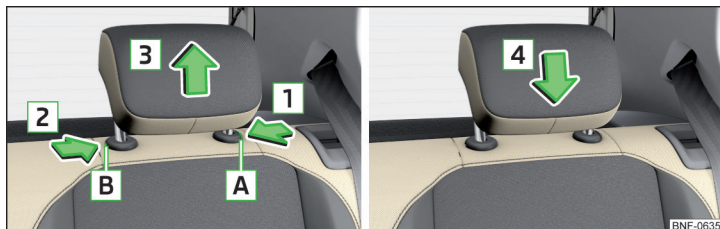

Fig. 52 Removing / installing rear head restraints
- Press the locking button **A** and hold it in arrow direction **1** » Fig. 52.
- Push the restraint in the direction of arrow **4** until the locking button engages » Fig. 52,